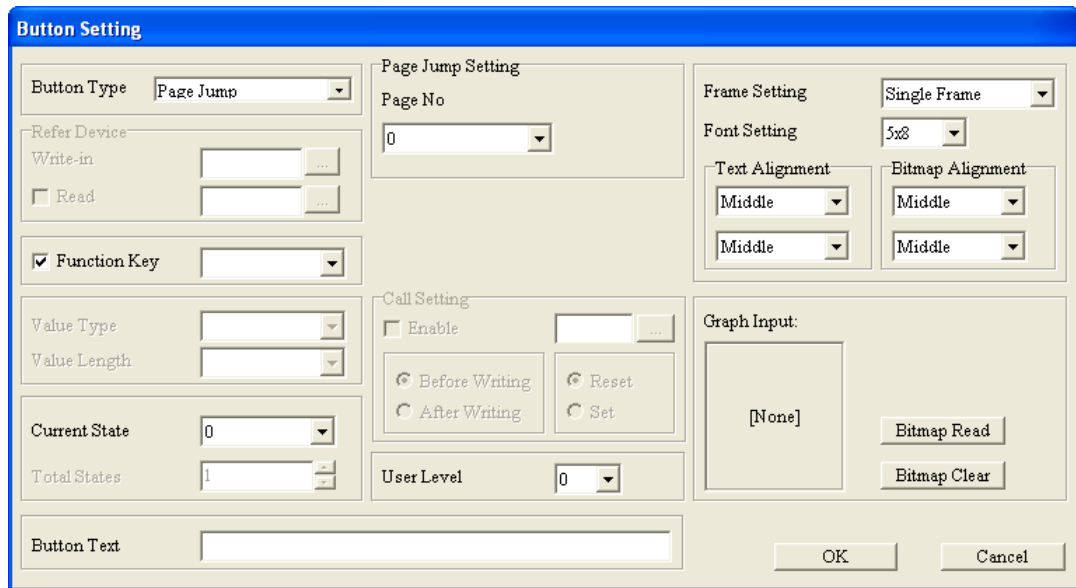

Figure 4-72 Button Setting window
- If **Page Jump** is selected, the **Button Setting** window will be as shown in Figure 4-72.